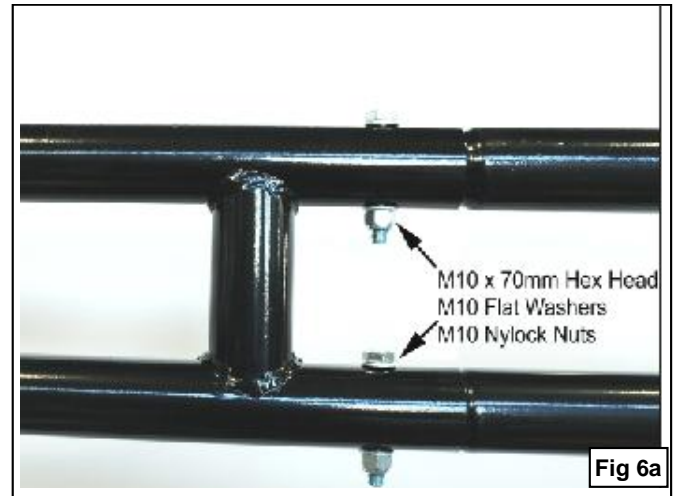

Fig 6a
Step 6: Attach front and rear Side Rails using the included (4) M10 x 70mm Hex Head Bolts, (4) M10 Hex Nuts and (8) M10 Flat Washers (Figure 6a).